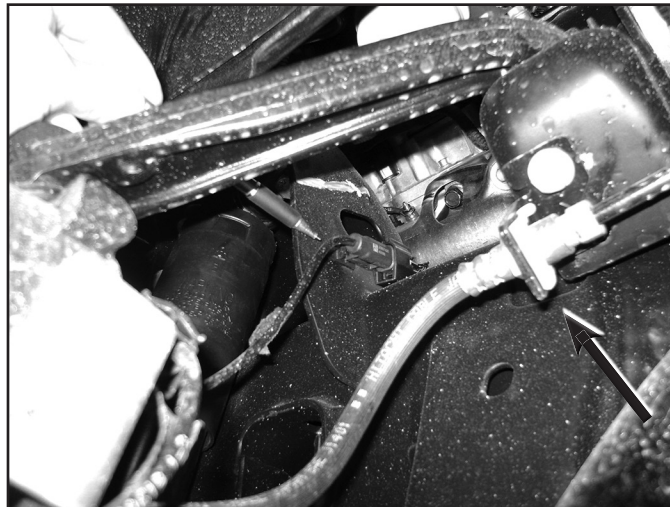

FIGURE 3
6. Locate the factory brake line junction at the frame where the hardline and rubber line meet. (Fig 3) Using a 13mm line wrench disconnect the hardline from the rubber line. Remove the retaining clip and pull the line from the frame bracket. Place a bucket, etc under the hardline to catch any brake fluid drips.